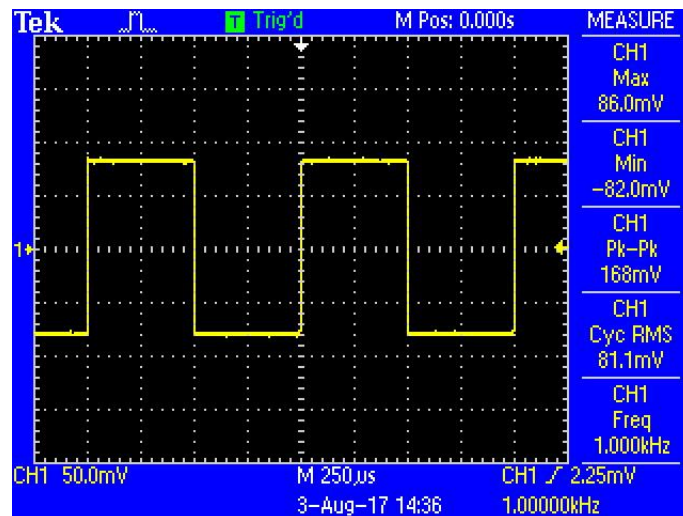

Fig.64 Parameters of the measured signal
3. Turn on the function signal generator and set “Function: Square”, “Amplitude: 80mVrms”, “Frequency: 1 kHz”, as is shown in Fig.64.